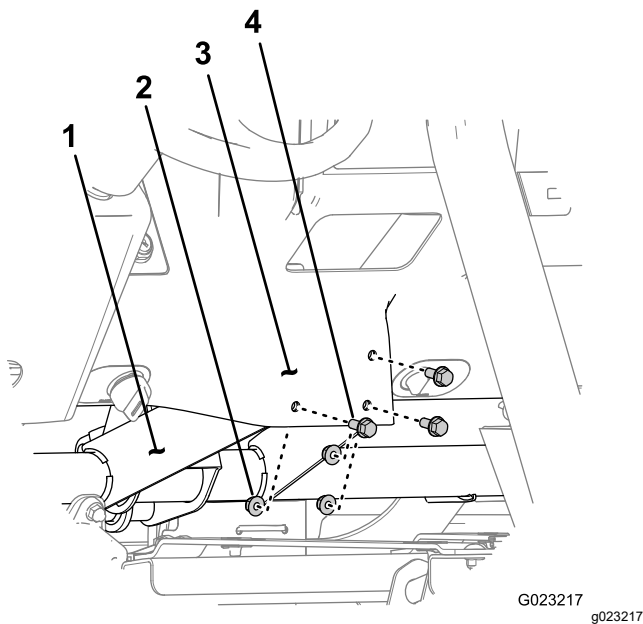

Figure 16
1. Remove the 3 flange bolts and 3 flange nuts that secure the dash panel at the lower center location to the dash support bracket (Figure 16).
2. Align the holes in the hand-throttle bracket with the holes in the dash panel (Figure 16).